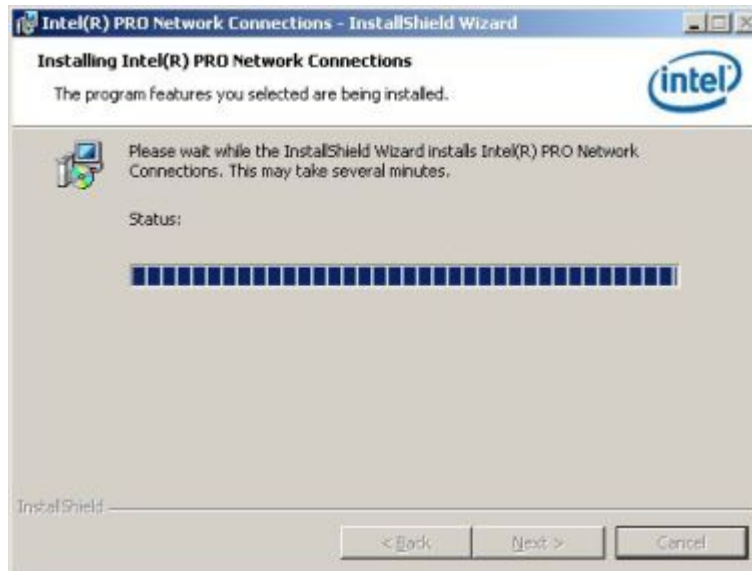

Figure 7-41: Intel® 82573 Driver Installation Progress
Step 25: The drivers are installed. See **Figure 7-41**.